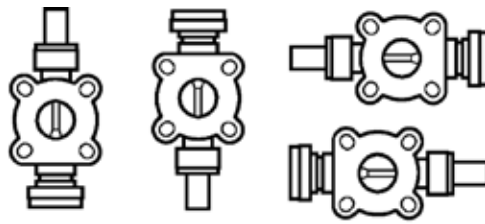

Figure 3
4.2.1 Installation of sampling valve for sampling with piston syringes (Figure 3)